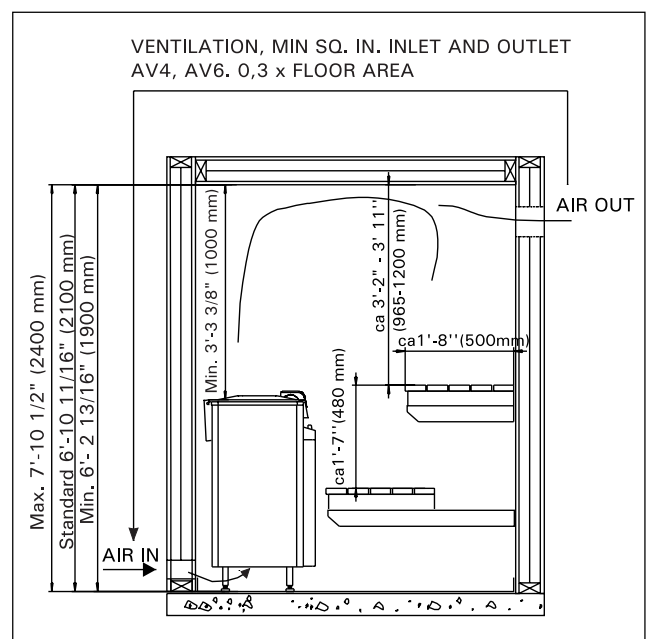

Figure 4. Sauna room
Outlet ventilation openings shall be located at the top of the wall, as close to the ceiling as possible, and shall comply with the minimum size requirements for inlet ventilations openings. See fig. 4.
**Table 1.** Installation details of a AV heater. See fig. 4 and item 2.3. "Heater output"
7. Is ceiling higher than in figure 4?